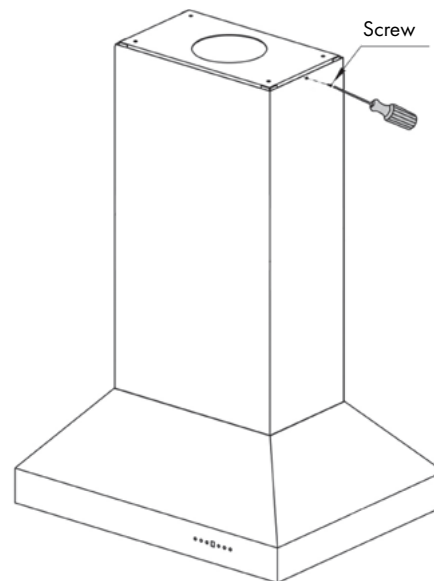

Figure 5
9. Slide top chimney piece up over the mounting bracket on the ceiling and secure it in place with the provided screws. *Figure 5*